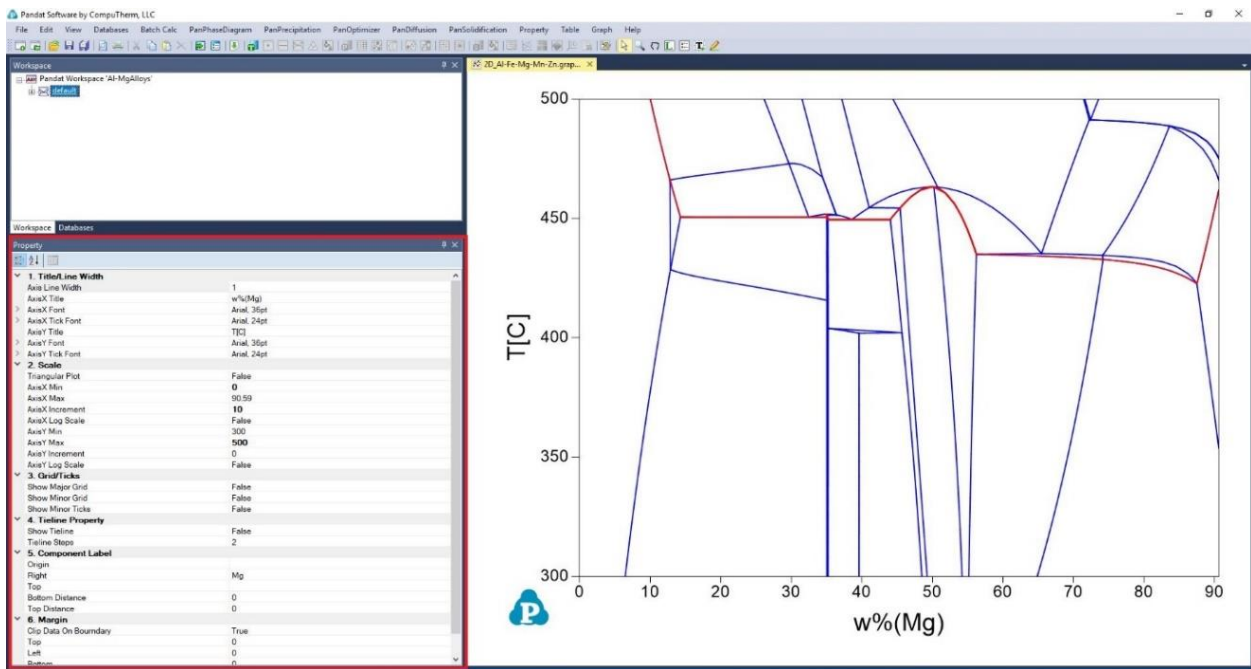

Figure 1.25.5 Graph property setting window to set axis scale, increment, title text.
- Change the scale and increment of the diagram. (Also detailed described in Pandat User's Guide 2.3.1) The scale of the axes can be set through the Property window at the left side of the interface as shown in Figure 1.25.5. In this example, X axis is set from 0 to 90.59, increment value 10. Y axis is set from 300 to 600 with increment of 50.